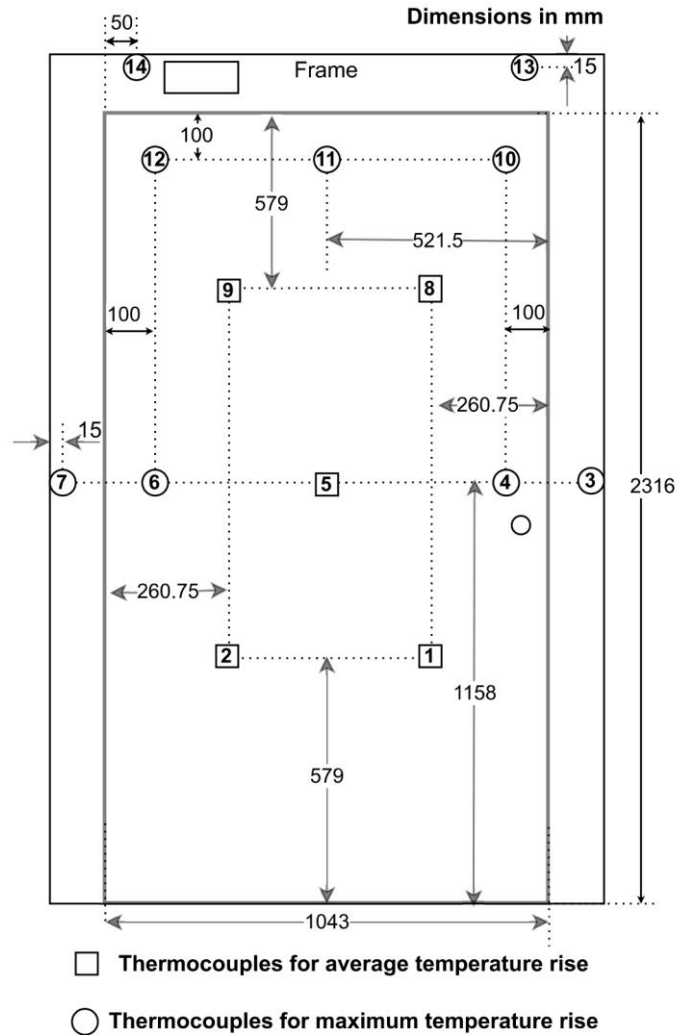

Figure 8: Schematic for thermocouple locations on the unexposed side.
- Figure 8 shows the location of all the unexposed side thermocouples.